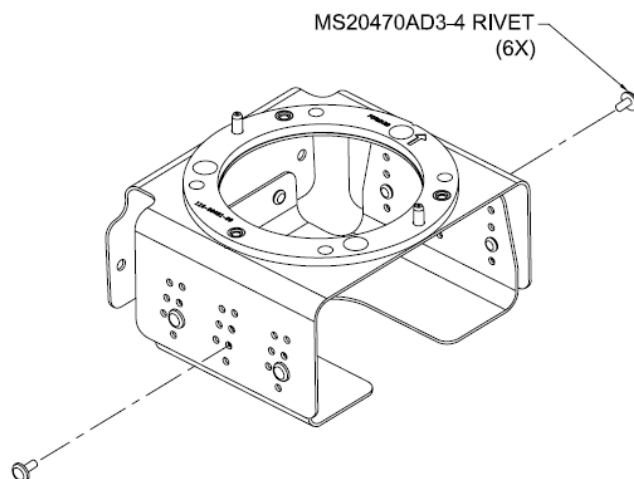

Figure A-12 Rivet shifted Magnetometer Mount
7. With the GMU 22 mount setup for installation in the right wing, shift the bracket to the minus 2 degree setting and rivet it in place using six 1/8" button head rivets as illustrated in Figure A-12.